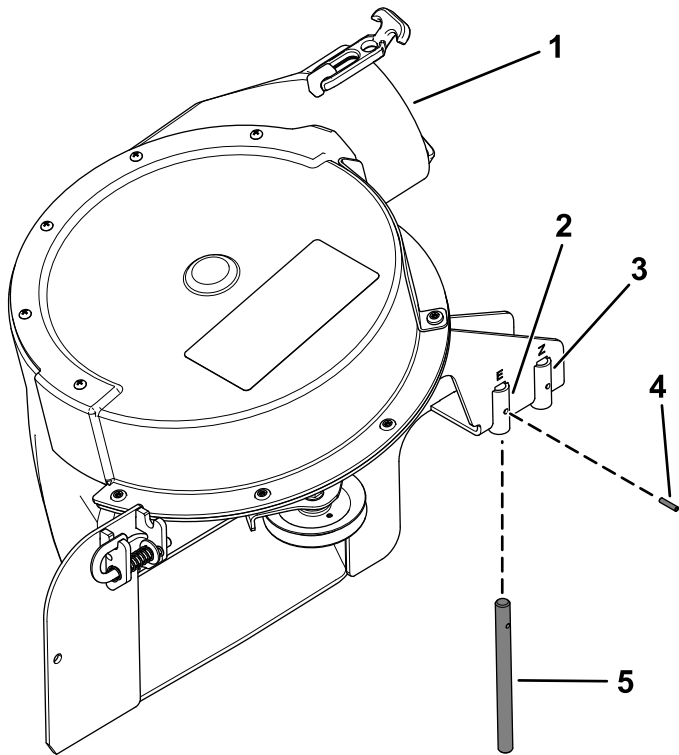

Figure 17
Verify that the pivot pin is secured on the blower assembly in the correct location (Figure 17).
- If you have a 48-inch or 52-inch mower deck, install the pivot pin in the front hole (Figure 17).
- If you have a 60-inch mower deck, install the pivot pin in the rear hole (Figure 17).